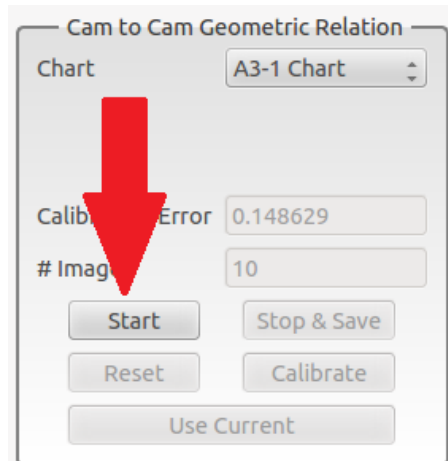

Figure 22
- Select the *Chart* type being used (typically A3-1) and press *Start* (Figure 22)